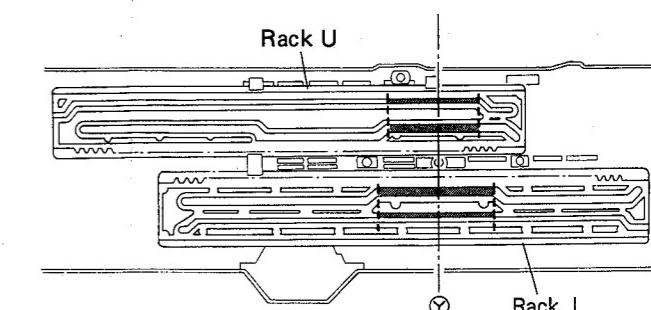

Fig. 3-4
1. Make sure that the positions of rack L and rack U are within the range indicated by the dotted lines in relation to the position of  $\textcircled{Y}$  in Fig. 3-4. (Position at which U, S, and L switches are all OFF.)